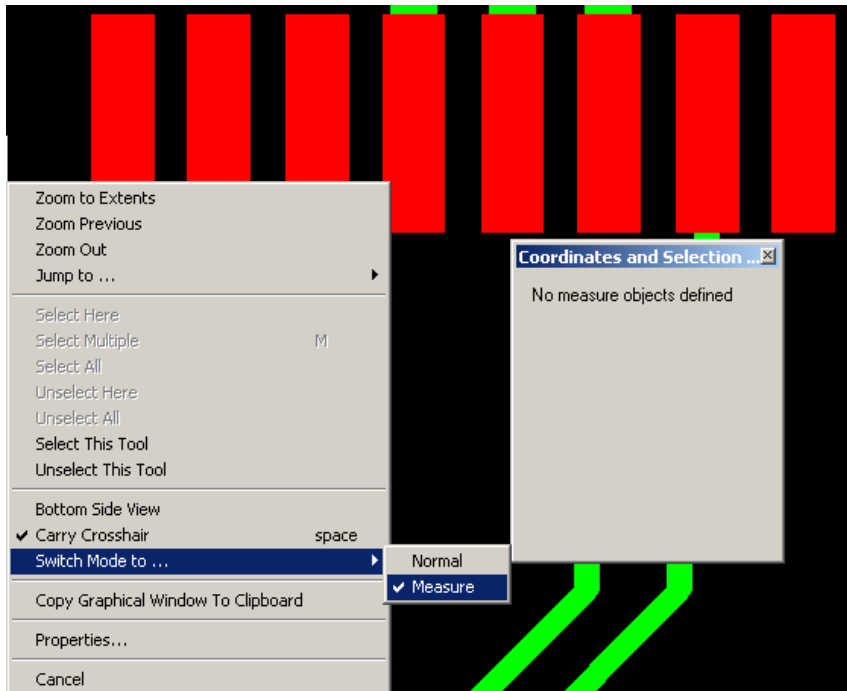

Figure 14: Measuring
8. You will notice a number of things – the cursor has changed to indicate a different mode and also the Co-ordinate Summary has changed in preparation for displaying measured values (see Figure 14).